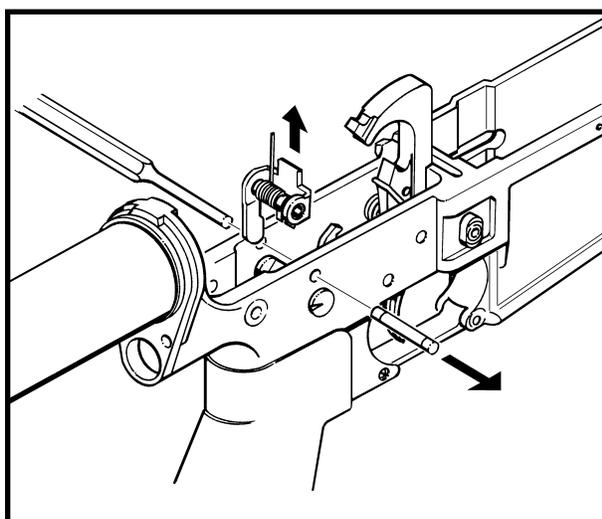

Figure 3-2-45 Removing the Automatic Sear
- a. **Automatic Sear.** See Figure 3-2-45 and remove the automatic sear as follows:
- (1) Move the fire control selector to the "Auto" position;
- (2) Press out the automatic sear pin, from the left side, with a suitable punch;
- (3) Take control of the automatic sear and automatic sear spring while removing the punch; and
- (4) Remove the assembled automatic sear.